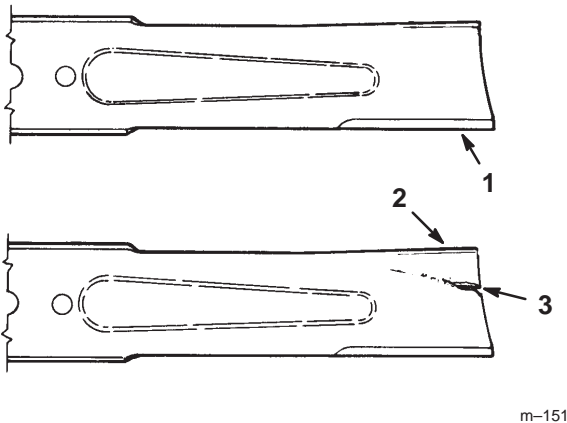

Figure 37
1. Inspect the cutting edges (Fig 37). If the edges are not sharp or have nicks, remove and sharpen the blades. Refer to Sharpening the Blades on page 32.
2. Inspect the blades, especially the curved area (Fig. 37). If you notice any damage, wear, or a slot forming in this area (item 3 in Fig. 37), immediately install a new blade.